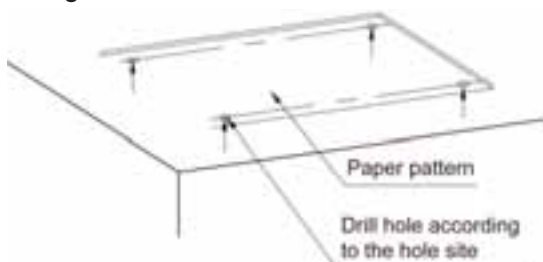
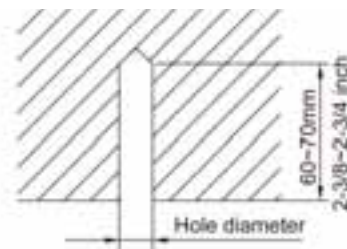

Fig 4.1.3
Fig 4.1.4
- 1) Attach the cardboard template on the installation position. Drill 4 holes according to the hole site on the cardboard as shown in Fig. 4.1.3. The diameter of hole should match the diameter of expansion bolt and the depth is 60-70mm (2-3/8~2-3/4 inch), as shown in Fig. 4.1.4.